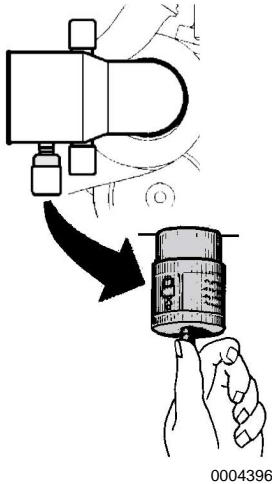

Figure 19
9. Press the button to reset the red plunger (**Figure 19**) in the restriction indicator.